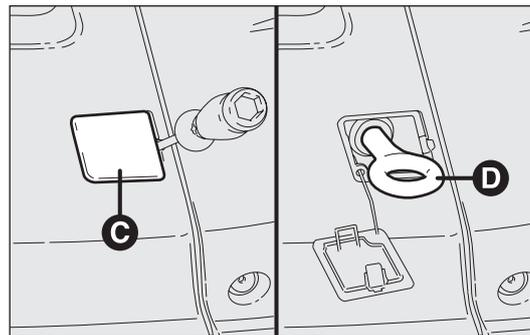

fig. 214
- ❑ take the screwdriver provided from the box and prise up at the point shown to raise the cap C-fig. 214;
- ❑ take the tow ring D from the box and screw onto the threaded pin fig. 214.